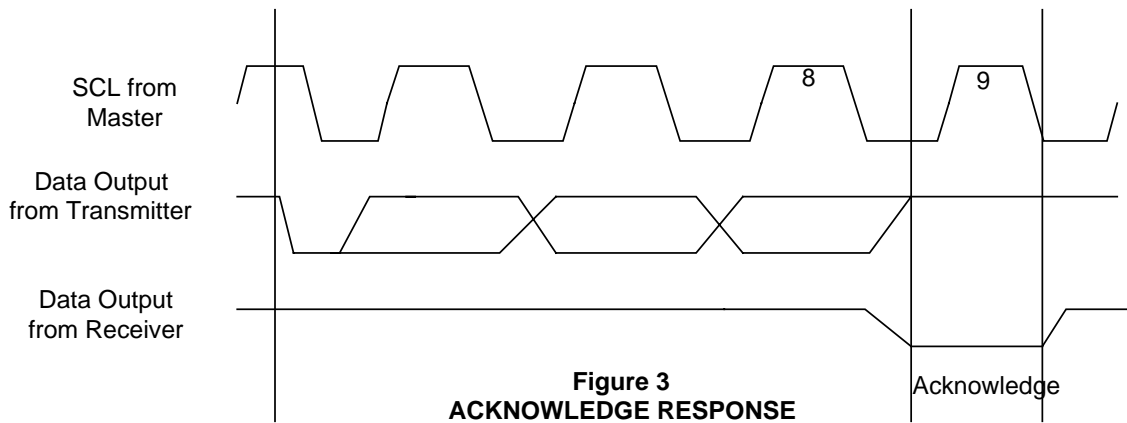

Figure 3
**SPD ACKNOWLEDGE** - Acknowledge is a software convention used to indicate successful data transfers. The transmitting device, either master or slave, will release the bus after transmitting eight bits of data (Figure 3). The PD device will always respond with an acknowledge after recognition of a start condition and its slave address. If both the device and a write operation have been selected, the PD device will respond with an acknowledge after the receipt of each subsequent eight bit word. In the read mode the PD device will transmit eight bits of data, release the SDA line and monitor the line for an acknowledge. If an acknowledge is not detected, the slave will terminate further data transmissions and await the stop condition to return to standby power mode.